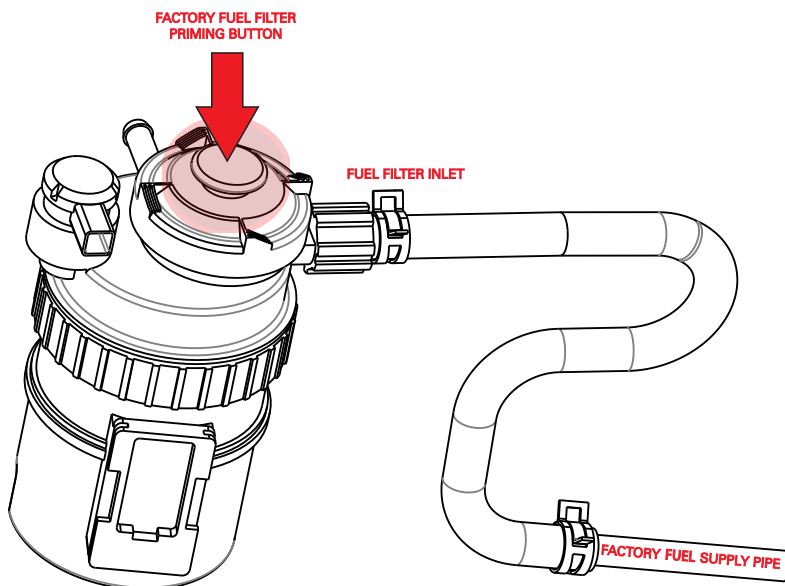
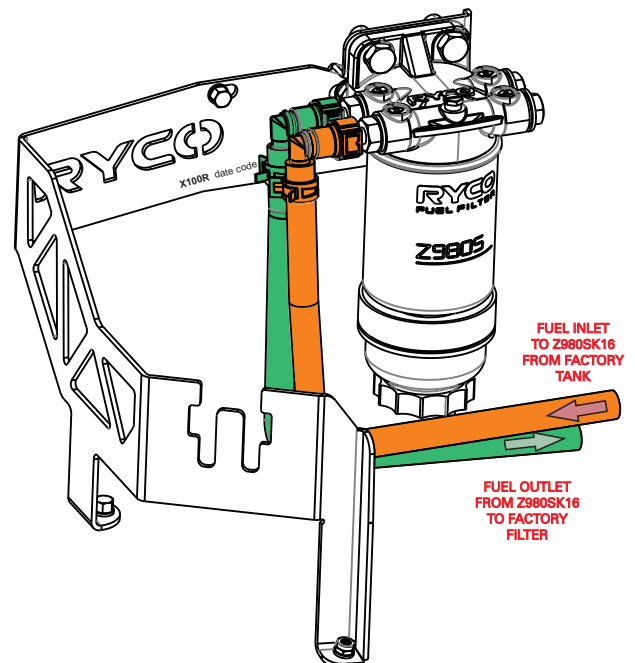

FIG. 5 FACTORY HOSE IDENTIFICATION
FIG. 6 FUEL WATER SEPARATOR INSTALLATION
1. Locate the factory fuel supply line by starting at the fuel inlet port of the factory fuel filter. Loosen the factory fuel hose clamp and disconnect the fuel supply line from the factory filter, as per Fig. 5. Have a rag ready to capture any diesel that may spill out of the fuel line and the fuel filter.
2. Trace the other end of the fuel supply line and disconnect it from the metal factory fuel supply pipe, as per Fig. 5. Remove the factory fuel supply line from the vehicle and store for safe keeping. Have a rag ready to capture any diesel that may spill out of the fuel lines.
3. Mount the Z980SK16 assembly onto the X100R metal bracket using the two (2) black M10 bolts supplied with the Z980SK16.
4. Connect one of the supplied fuel hoses to the inlet port of the Z980SK16 (coloured orange in Fig. 6) by pushing the elbow connector onto the metal quick connector until you hear a "click", and route the other end under and up past the factory ABS module pipes and brake fluid reservoir. Continue the hose along the top of the factory AC pipes, and along the factory powertrain harness at the back of the engine bay, as per Fig. 7. Connect the end of the fuel hose to the factory fuel supply pipe ensuring no sharp bends in the hose and secure with a supplied fuel hose clamp.
5. Connect the second hose to the outlet port of the Z980SK16 (coloured green in Fig. 6) by pushing the elbow connector onto the metal quick connector until you hear a "click", and route the other end similar to Step. 4 as per Fig. 6. Connect the end of the fuel hose to the factory fuel filter and secure with a supplied fuel hose clamp.